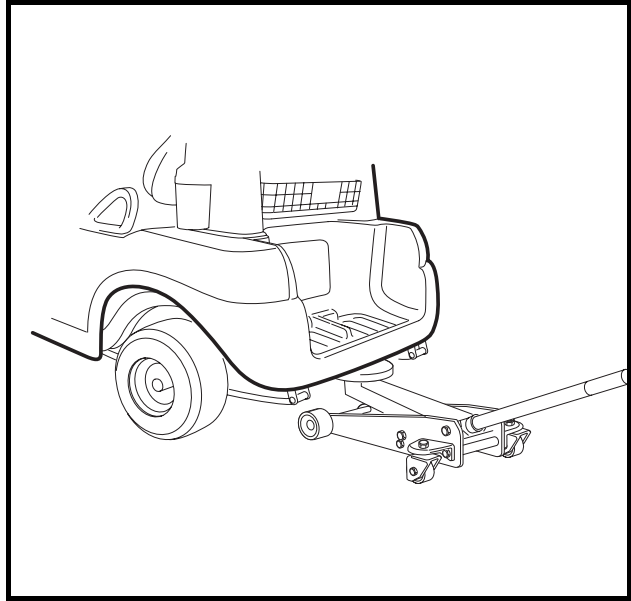

Figure 16-21 Floor Jack
7. Position a floor jack under the rear of the vehicle (**Figure 16-21, Page 16-11**).